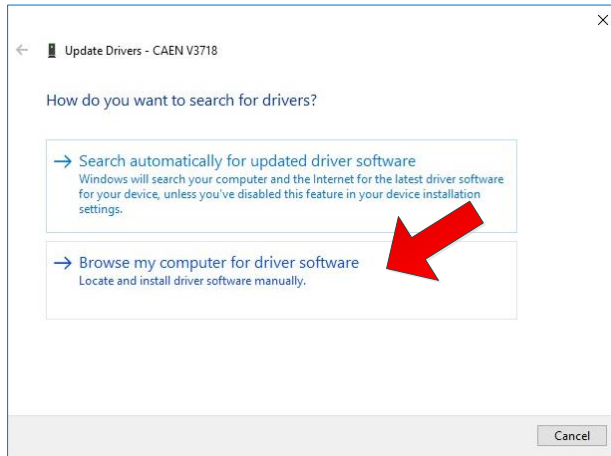

Fig. 11.3: USB Driver Installation: step 3
3. Click on *Browse my computer for driver software* option (**Fig. 11.3**).